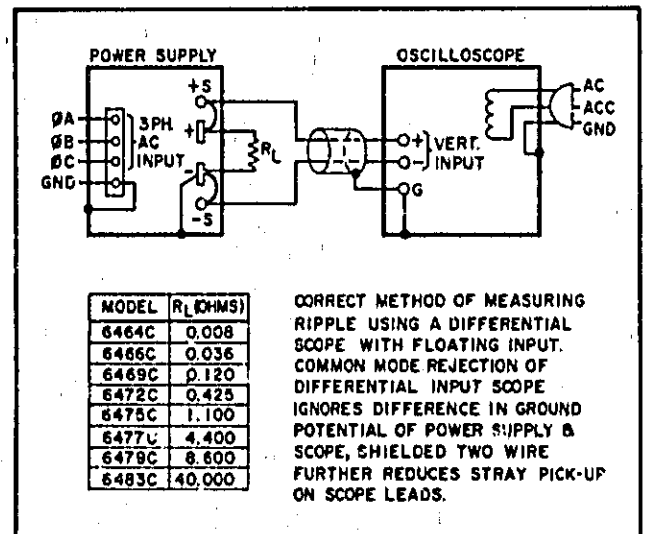
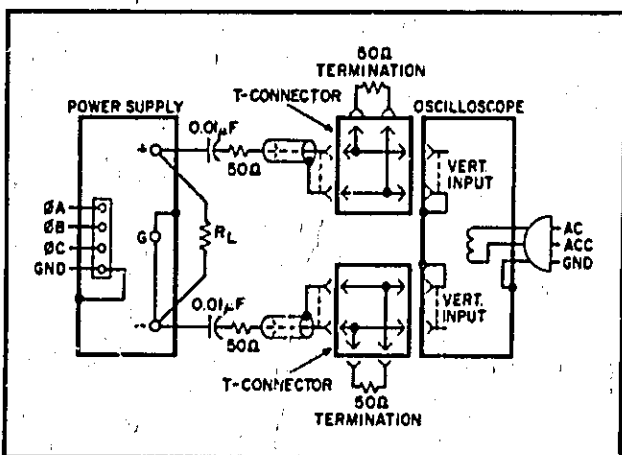

Figure 5-2. Ripple Test Setup
Figure 5-3. Noise Spike Measurement Test Setup
- Connect load resistor (R_L) indicated in Figure 5-2 across output busbars.
5-17 Figure 5-2 shows the recommended method of measuring ripple using a differential scope. If desired, two single-conductor shielded cables may be substituted in place of the shielded two-wire cable with equal success. Because of its common mode rejection, a differential oscilloscope displays only the difference in signal between its two vertical input terminals, thus ignoring the effects of any common mode signal produced by the difference in the ac potential between the power supply case and scope case. Before using a differential input scope in this manner, however, it is imperative that the common mode rejection capability of the scope be verified by shorting together its two input leads at the power supply and observing the trace on the CRT. If this trace is a straight line, then the scope is properly ignoring any common mode signal present. If this trace is not a straight line, then the scope is not rejecting the ground signal and must be realigned in accordance with the manufacturer's instructions until proper common mode rejection is attained.
a. Connect oscilloscope or rms voltmeter as shown in Figure 5-2.
5-21 The test setup illustrated in Figure 5-2 is generally not acceptable for measuring spikes:
1. As shown in Figure 5-3, two coax cables must be substituted for the shielded two-wire cable.
5-22 The circuit of Figure 5-3 can also be used for the normal measurement of low frequency ripple; simply remove the four terminating resistors and the blocking capacitors and substitute a higher gain vertical plug-in in place of the wide-band plug-in required for spike measurements. Notice that with these changes, Figure 5-3 becomes a two-cable version of Figure 5-2.